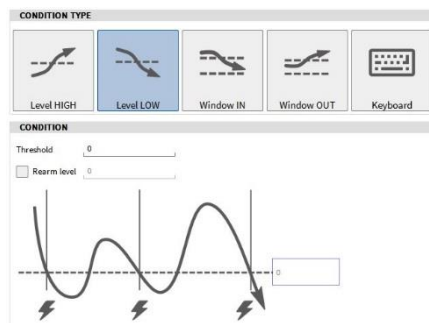

Figure 7-4: Trigger on *Level LOW*
- Level LOW: Activate Event if selected signal falls below defined Threshold. A *Rearm* Level that must be passed before the trigger is activated again can optionally be defined (see Figure 7-4).